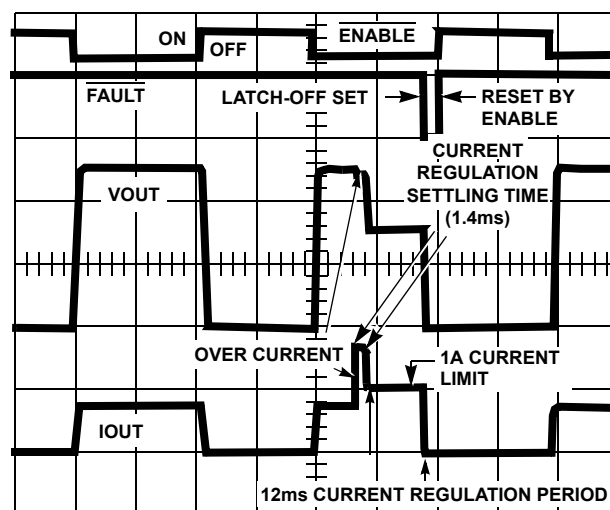

FIGURE 1. TYPICAL OPERATIONAL WAVEFORMS
The ISL6119 is a fully independent dual channel overcurrent (OC) fault protection IC for the +2.5V to +5.5V environment. Each ISL6119 incorporates in a single 8 lead SOIC package two 80mW N-channel MOSFET power switches for power control. Independent enabling inputs and fault reporting outputs compatible with 3V and 5V logic allows for external control and monitoring. This device features internal current monitoring, accurate current limiting, integrated power switches and current limited timed delay to latch-off for system protection. See Figure 1 for typical operational waveforms including both under and overcurrent situations.